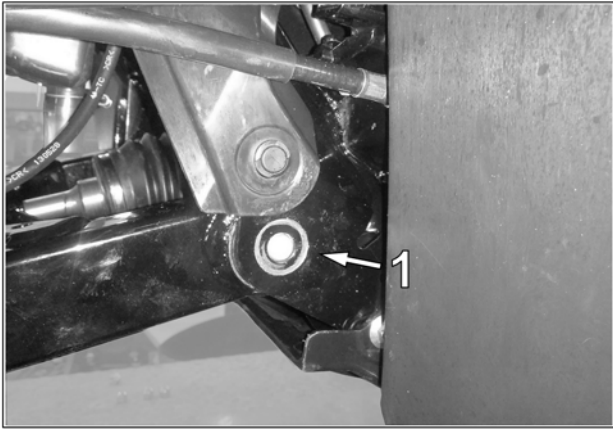

Fig. 4
4. Remove the pivot bolt (1) linking the swingarm to the vehicle's frame. See Fig. 4